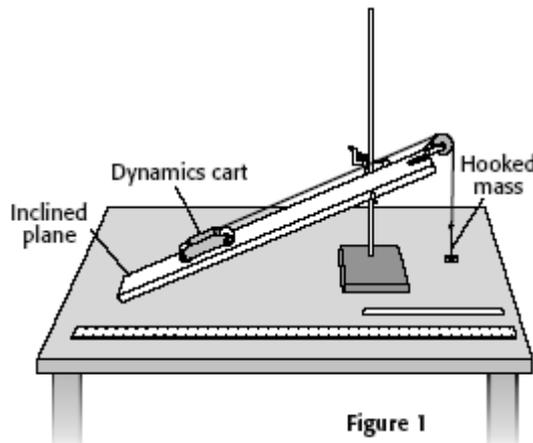

Figure 1
- Set up the inclined plane as shown in **Figure 1**. Set the incline securely to any angle. Keep the angle constant during this part of the experiment. Place the inclined plane away from the edge of the table, or clamp its base to the edge of the table.